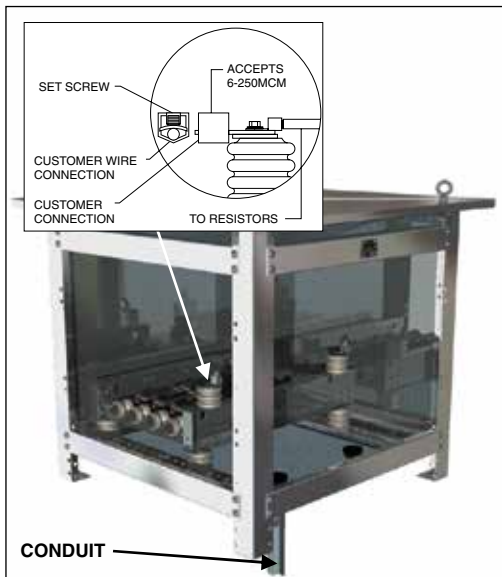

Figure 3: Wirewound or edgewound resistors
3. For wirewound or edgewound type resistors, the connection is made to a terminal point separate from the resistor. This configuration prevents undue stress on the actual elements. The neutral terminal is tagged for easy identification. Location and termination of the conduit is the customer's responsibility. (See Figure 3.)